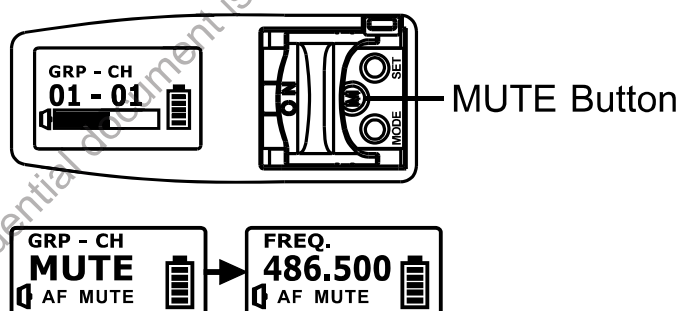

Fig. 17
- (1) ROM-ER → Channel wasn't programmed or internal data error.
- (2) ERROR1 → RF frequency targeting circuitry is failed.
- (3) NO----03 → The set frequency exceeds the upper band. The transmitter frequency will not be changed but it can be operated as long as the power switch is turned on again.
- (4) NO----04 → The set frequency exceeds the lower band. The transmitter frequency will not be changed but it can be operated as long as the power switch is turned on again.
(H) MUTE Button. Fig. 17:
- (1) Press MUTE button to enter MUTE status, the Audio Signal Level Bar ⑱ shows AF MUTE and blinks, and all operations and the ACT function are still workable.
- (2) Press MUTE button again to unmute. AF MUTE will be disabled automatically when power off.
- (3) MUTE button is only workable under MAN (Manual Setting) mode.